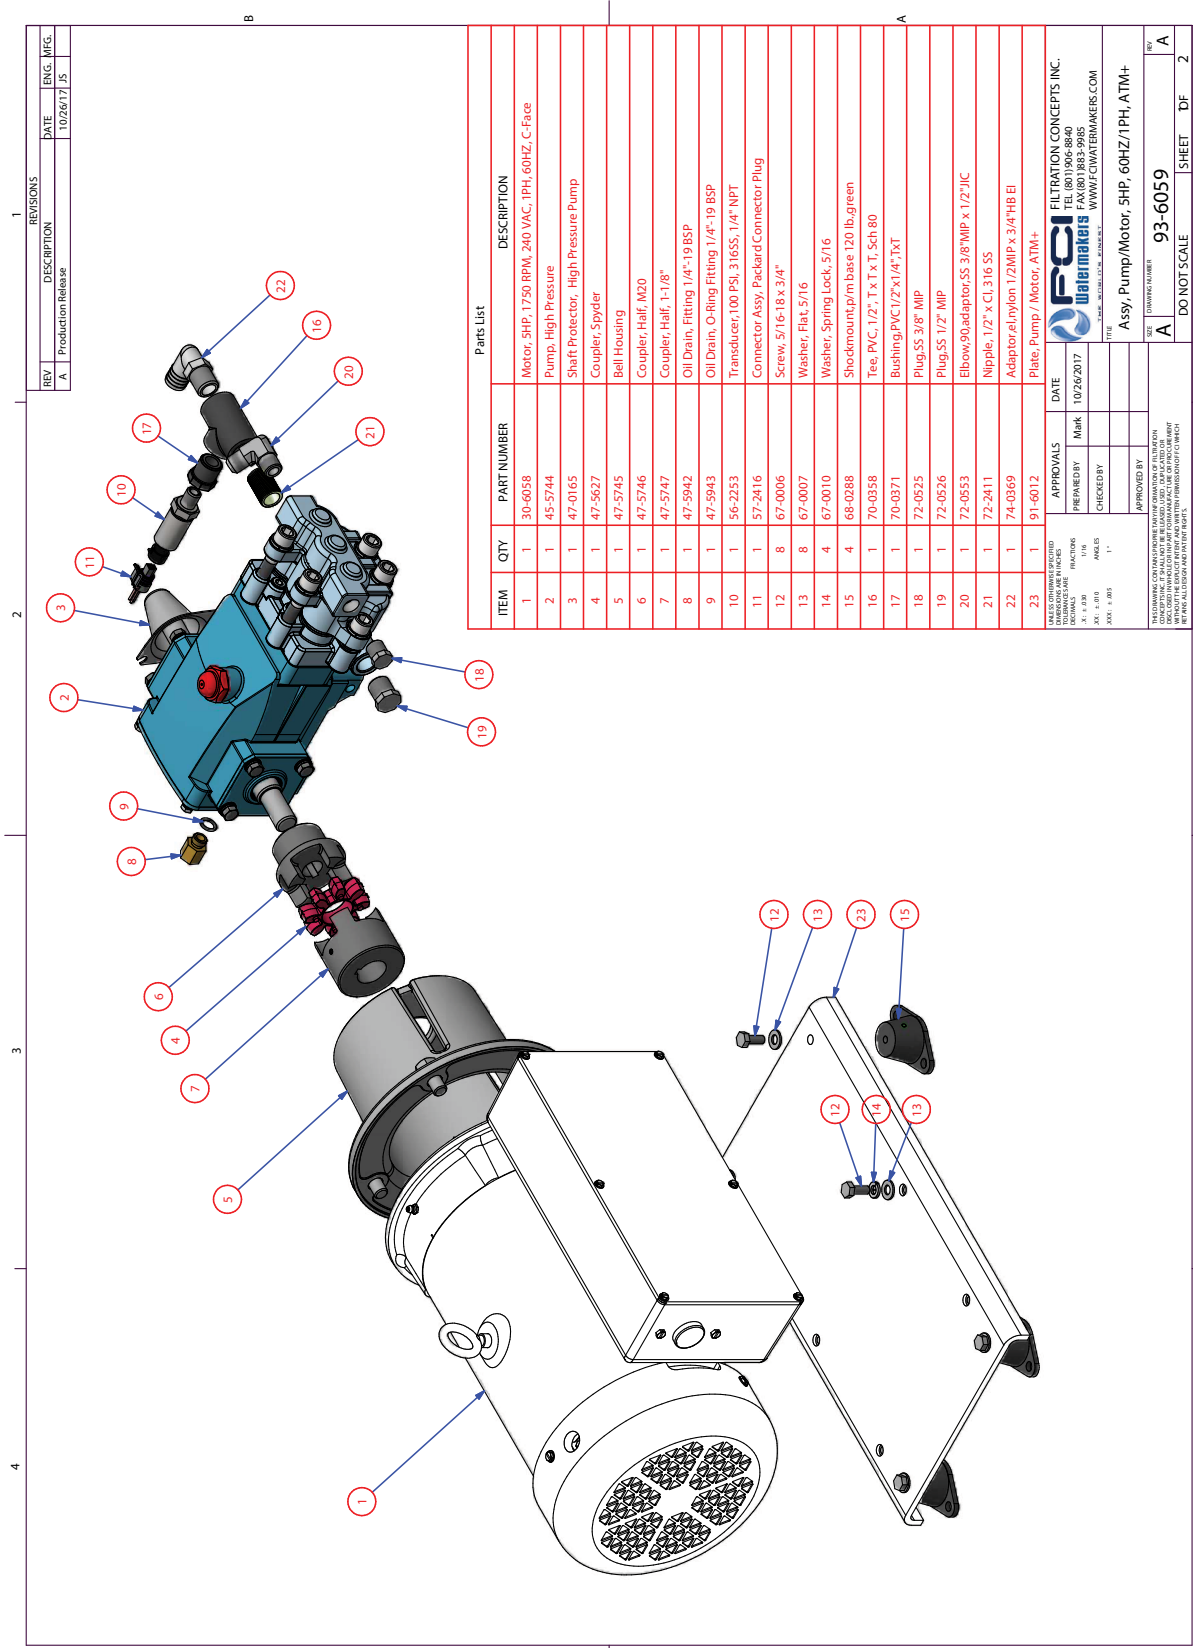

Figure 28: High Pressure Pump Assembly Drawing (Single Phase)
- "Figure 28: High Pressure Pump Assembly Drawing (Single Phase)" on page 122